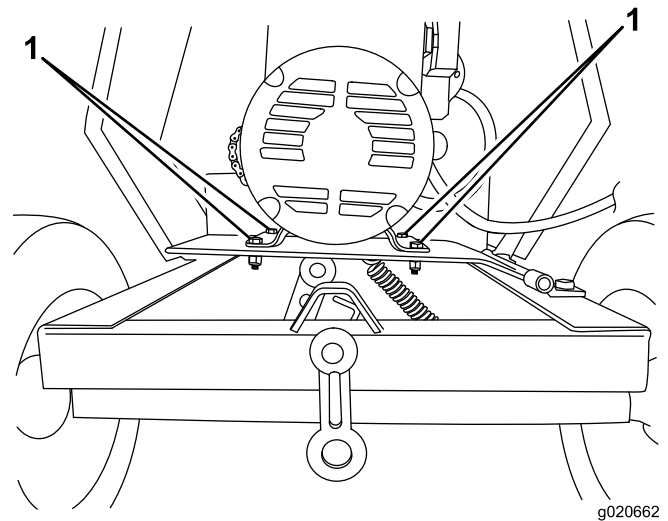

Figure 35
- B. Loosen the nuts and bolts that secure the motor to the motor deck (Figure 35).
- **Increase the air gap**—move the motor **away** from the idler pulley (Figure 35).
- **Decrease the air gap**—move the motor **toward** the idler pulley (Figure 35).